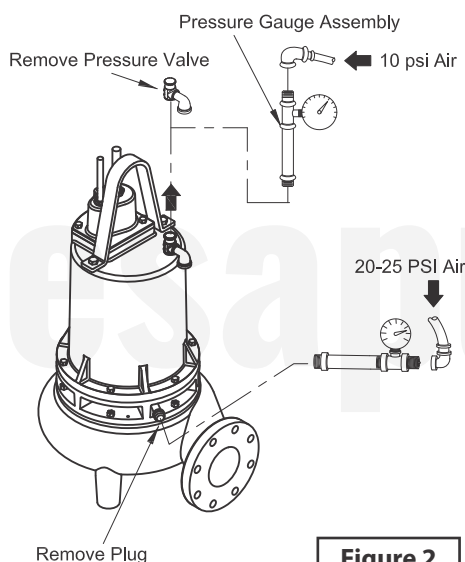

Figure 2
**Motor Housing** - Oil should be at normal level. Remove pressure valve (11) from motor housing (3). Apply pipe sealant to pressure gauge assembly and tighten into hole (See Figure 2). Pressurize motor housing to 10 PSI.